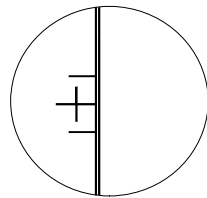

Fig.10
- 5.3.3 Rotate the left and right drum wheel to enable inner side edges of two graduated lines move closely without limit between them, the light slot between graduated lines become smaller and smaller till reaching critical state with no light slot. Press “CLR-D” key to set zero (see Fig.10).